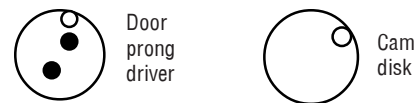

Fig. 2b - Installation of door prong driver and cam disk.
STEP 4 - Place the lock face side down on a flat surface. Install the door (R) prong driver first, then place the cam disk over the top in the orientation indicated in Fig. 2b.